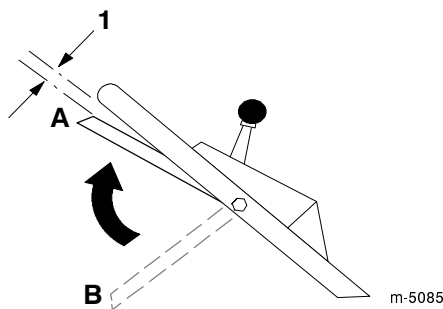

Figure 15
9. Lift the control bar up to about one inch (2.5 cm) below the handle; refer to position A in Figure 15.